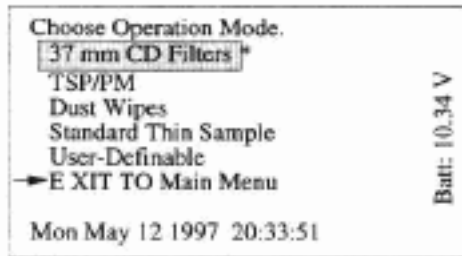

Fig. 2.15 Operation Mode
4. The **Choose Operation Mode for Thin Samples** screen will *highlight* the thin sample mode you have selected and the cursor will move to **Exit to Main Menu** (**Figure 2.15**). Press the **Clear/Enter** button to return to the **Main Menu**. Press the **Clear/Enter** button again to initiate **Calibration & Testing** in the thin sample mode you have selected.